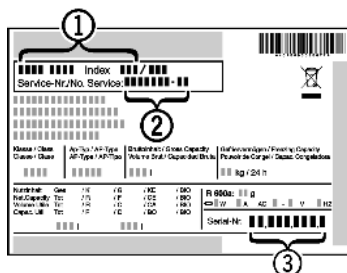

Fig. 6
- Read the appliance designation *Fig. 6 (1)*, service no. *Fig. 6 (2)* and serial no. *Fig. 6 (3)* from the rating plate. The rating plate is located inside the appliance on the left-hand side.
- Notify a qualified service provider, specifying the fault, appliance designation *Fig. 6 (1)*, service no. *Fig. 6 (2)* and serial *Fig. 6 (3)* no.